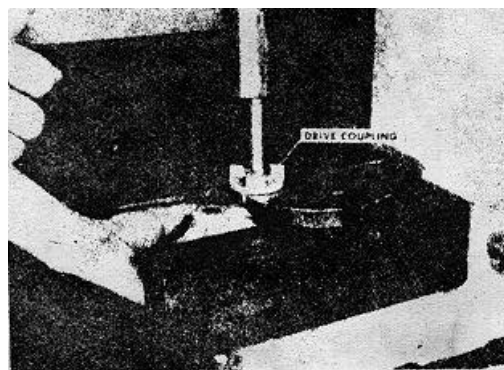

Figure 4-29. Removing drive coupling
2. Press the drive coupling from the drive shaft and remove the coupling key. Fig. 4-29.